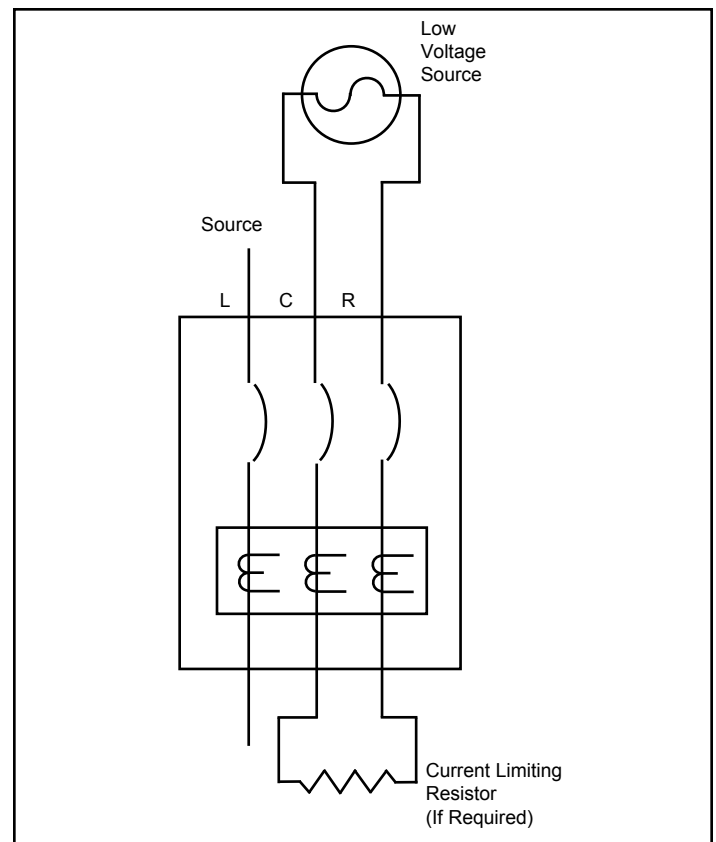

Figure 7-1c. Connections for Ground Fault No-Trip Test with a Three Wire System.
7.3.6 If the system is a 3-wire system with no neutral current sensor, apply the same current as described in paragraph 7.3.4 through any two phases of the breaker, with the connections exactly shown in Figure 7-1c. The breaker should not trip and the alarm indicator, if supplied, should not operate. Repeat the test using the other two combinations of breaker phases.